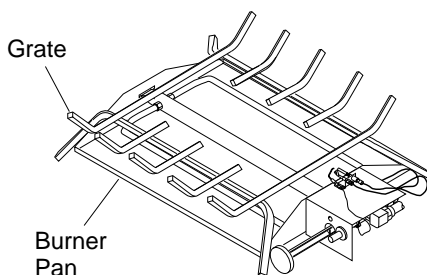

Figure 8 - Installing Grate (Pan Material Not Shown)
1. Place the grate over the burner pan. The grate should "lock" into place over the corners of the pan (see Figure 8).